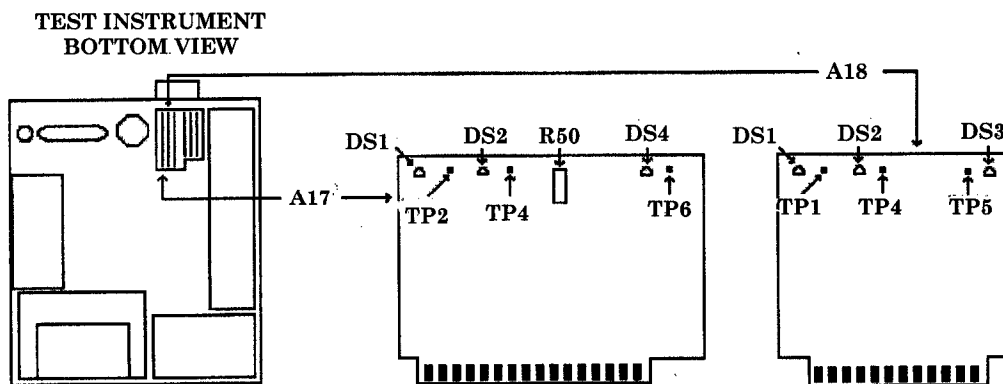

Figure 34. A17 & A18 boards.
- (23) Connect multimeter **HI** to A17TP4 (fig. 34) and multimeter **LO** to TI chassis.
- (24) The 20 V indicator A17DS2 (fig. 34) (yellow LED) should be lit.
- (25) Adjust A17R50 (fig. 34) for a multimeter indication of 20.000 ± 0.001 V dc (R).
- (26) Connect multimeter **HI** to A17TP6 (fig. 34) and multimeter **LO** to TI chassis.
- (27) The 12 V indicator A17DS4 (fig. 34) (yellow LED) should be lit.
- (28) Multimeter should indicate 12.25 ± 0.30 V dc.
- (29) Connect multimeter **HI** to A17TP2 (fig. 34) and multimeter **LO** to TI chassis.
- (30) The 5.2 V indicator A17DS1 (fig. 34) (yellow LED) should be lit.
- (31) Multimeter should indicate 5.2 ± 0.05 V dc.
- (32) Connect multimeter **HI** to A18TP5 (fig. 34) and multimeter **LO** to TI chassis.
- (33) The -5.2 V indicator A18DS3 (fig. 34) (yellow LED) should be lit.
- (34) Multimeter should indicate -5.2 ± 0.05 V dc.
- (35) Connect multimeter **HI** to A18TP1 (fig. 34) and multimeter **LO** to TI chassis.
- (36) The -40 V indicator A18DS1 (fig. 34) (yellow LED) should be lit.
- (37) Multimeter should indicate -39.8 ± 0.4 V dc.
- (38) Connect multimeter **HI** to A18TP4 (fig. 34) and multimeter **LO** to TI chassis.
- (39) The -10 V indicator A18DS2 (fig. 34) (yellow LED) should be lit.
- (40) Multimeter should indicate -10.0 ± 0.1 V dc.